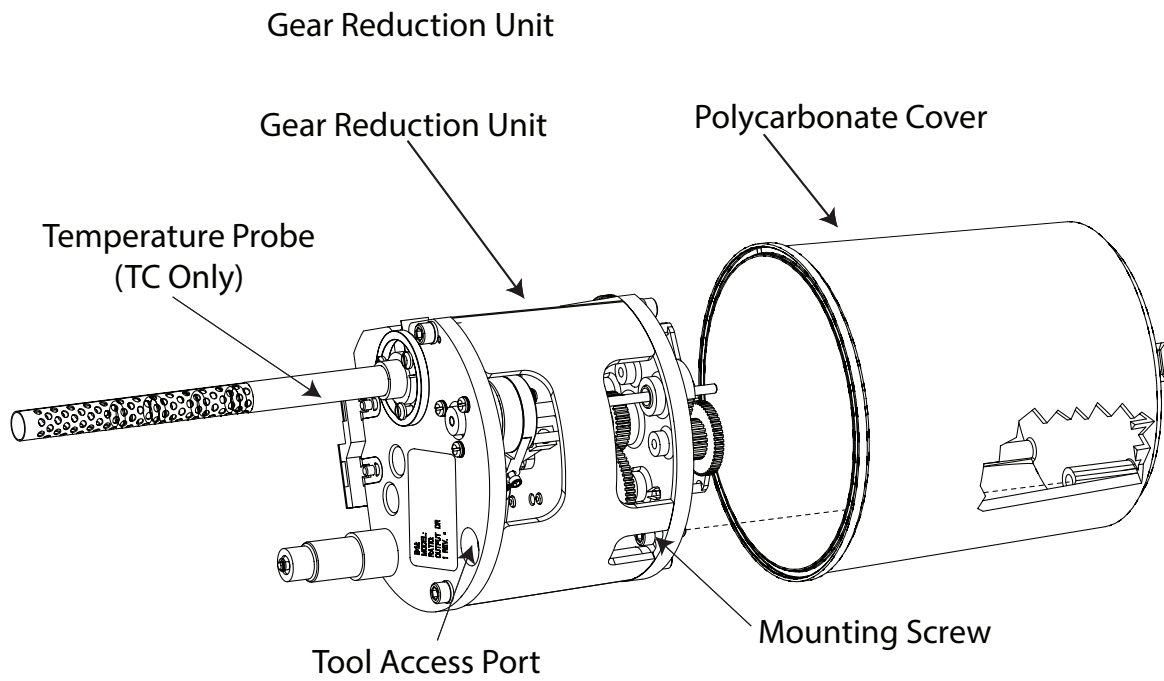

Figure 18 - Exploded view of Gear Reduction Assembly and Polycarbonate Cover
Removing the Gear Reduction Assembly from the Polycarbonate Cover (Refer to Figure 18)
Use a 9/64" Allen wrench to remove the mounting screw holding the accessory unit in the cover. The screw can be accessed through the Tool Access Port as shown in Figure 18.
Replacing the Gear Reduction Unit in Polycarbonate Cover (Refer to Figure 18)
1. Remove CTR or TC Accessory from the meter. To do this, remove the four screws securing the slip flange, and remove the slip flange. Gently pull the accessory housing assembly off the meter. Remove the screws and slip ring. Remove the CTR or TC accessory from its housing by loosening the screw inside the housing, as shown in Figure 18.
1. Remove the CTR Accessory from the meter. To do this, remove the four screws securing the slip flange and remove the slip flange. Gently pull the accessory housing assembly off the meter. Remove the screws and slip flange. Remove the CTR accessory from its housing by loosening the screw inside the housing. See Figure 18.